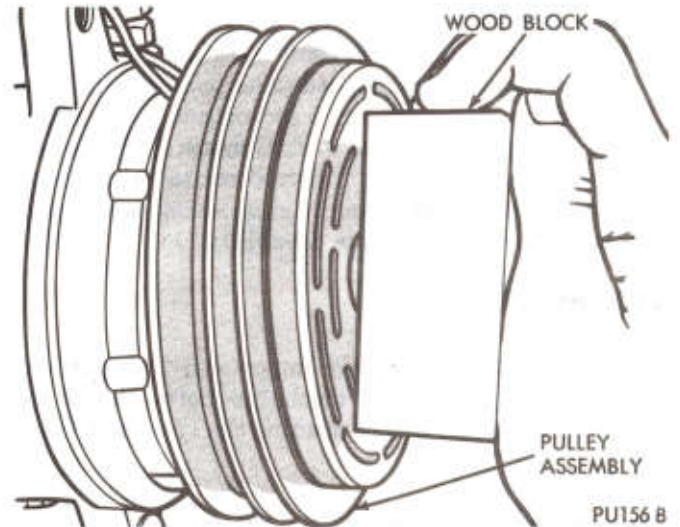

Fig. 7—Installing Pulley Assembly, C-171 Compressor
(3) Install pulley assembly onto compressor. If necessary, tap gently with a block of wood on the grease slinger (Fig. 7).